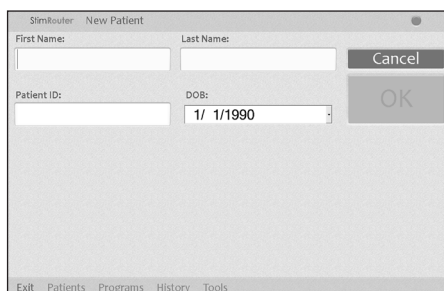

Figure 7-2: New patient window
5. When the New Patient window opens, enter the patient's first and last names and a patient ID. **See Figure 7-2.**